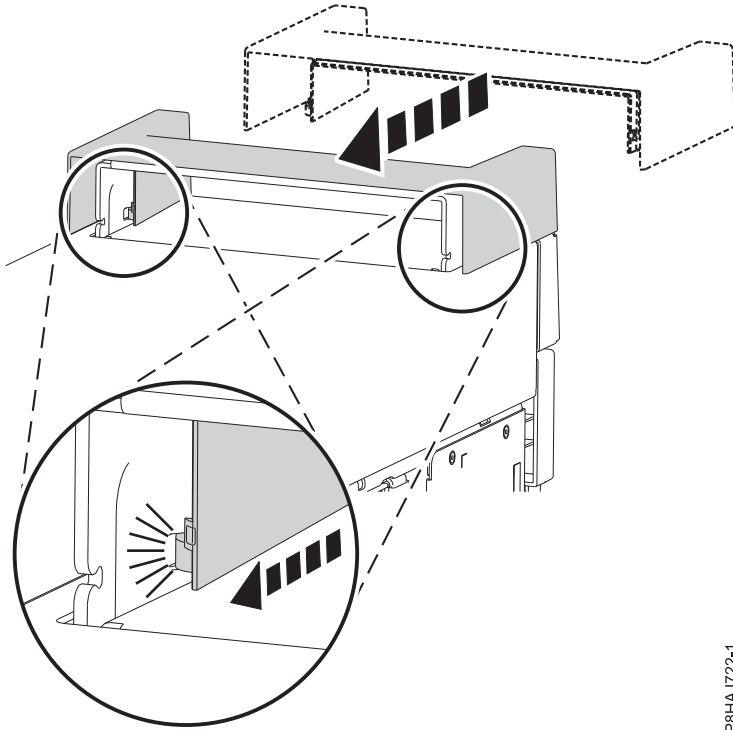

Figure 17. Securing the 8286-41A stand-alone system handle cover
1. Secure the handle cover to the internal RDX docking station (FC EUA3) by sliding it toward the rear of the system. See Figure 17.